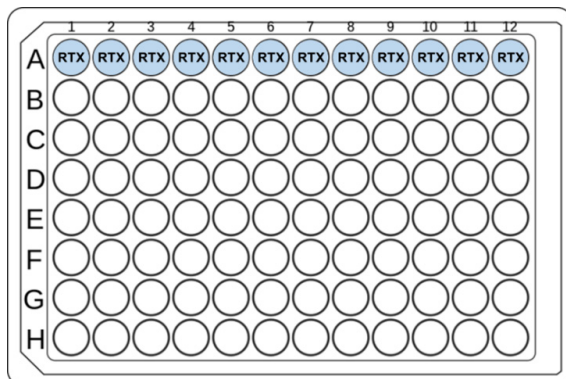

Figure 6: RTX Mix in Amplification Master Mix Plate.
6. Using a single-channel pipette, aliquot the **RTX Mix** evenly across all 12 wells of Row A of the 96-well **Amplification Master Mix Plate** (Figure 6). Seal the plate, briefly spin to collect all liquids at the bottom of the wells, and place on ice. Ensure there are no bubbles present in the bottom of the wells.